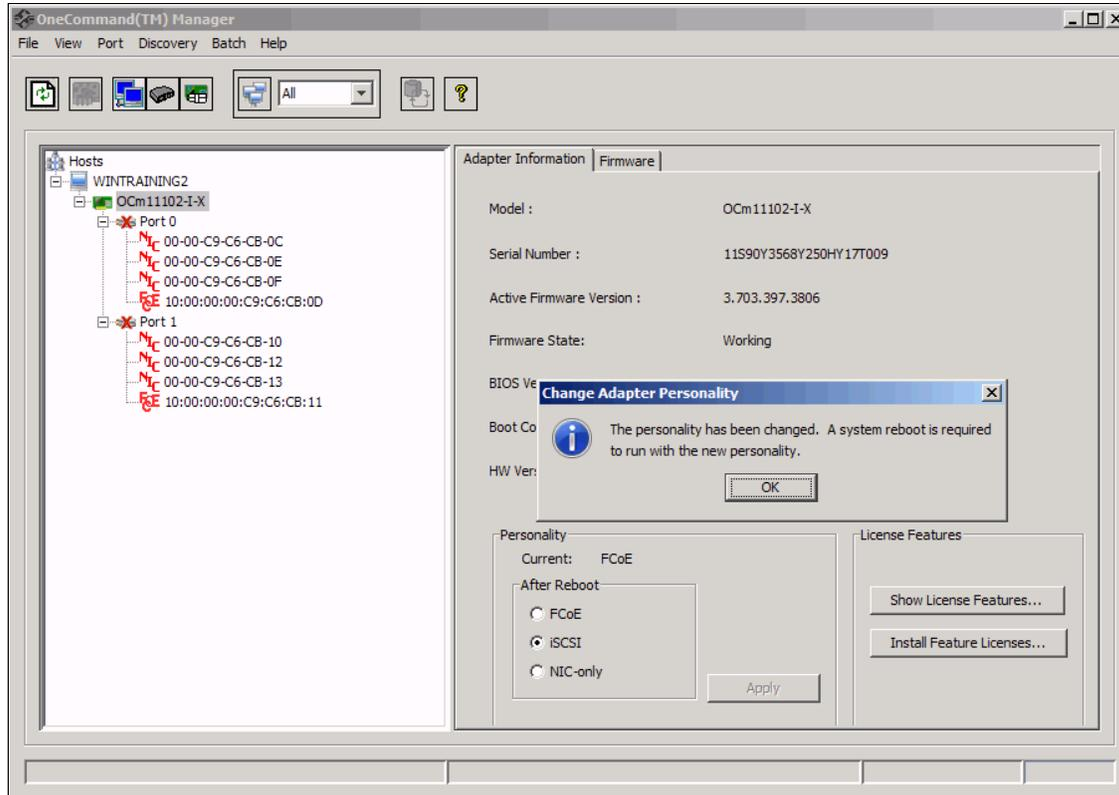

Figure 5-38 Emulex personality change reboot requirement
3. In the Change Adapter Personality dialog box (inset in Figure 5-38), click **OK** to restart your system and to activate the change.